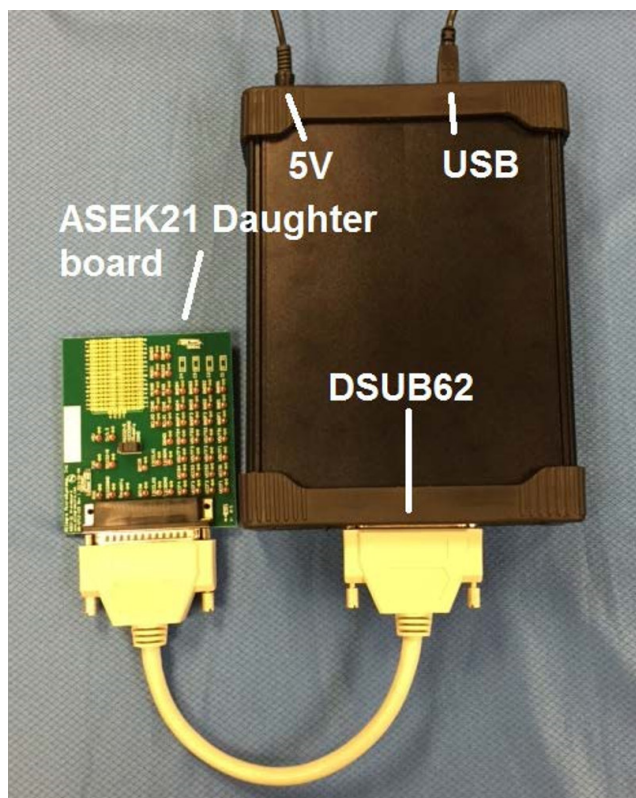

Figure 2: Assembled ASEK-21
6. Complete setup is shown in Figure 2.